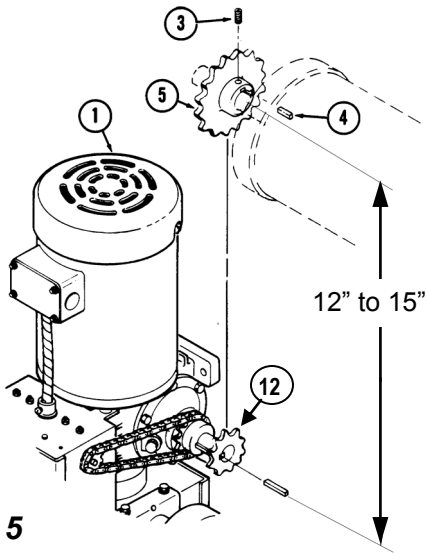
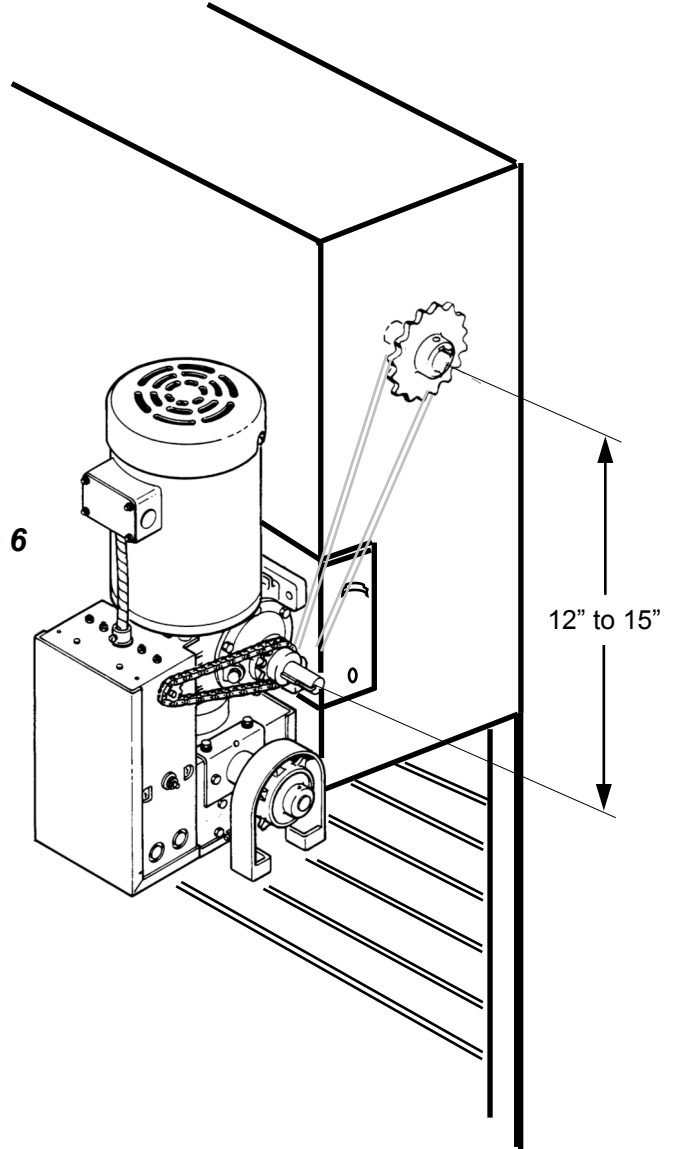

Figure 5
Figure 6
2. Determine which side of the door the opener will be located on. Fasten the sprockets [5] and [12] and the keys [4] on the chosen side of the torsion shaft of the door and on the corresponding end of the output shaft of the opener. Tighten the set screws enough to prevent the sprockets from sliding off the shaft. If the door shaft lacks a keyway you will need to drill and pin the sprocket in accordance with Step 6 (tightening the set screws is sufficient for this step). The sprockets should be kept as close as possible to the bearings. Fasten the wall mounting plate or the mounting bracket (as applicable and if available) to the opener gear box flange. Temporarily suspend the opener in its mounting position and such that the distance between the door shaft and the opener's output shaft is between 12" and 15". See **Figure 5** for wall mount and **Figure 6** for hood mount illustration. The distance between the shafts may be greater if the mounting conditions prohibit installation as suggested.